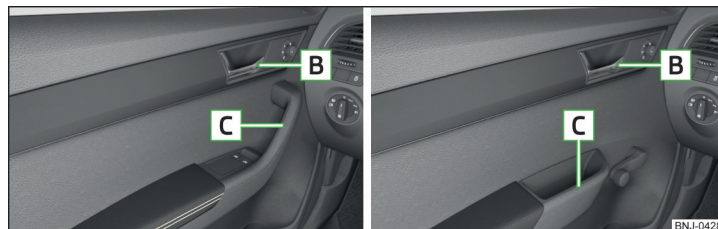

Fig. 48 Door opening lever - Variant 1 / Variant 2
- To **open from the inside** pull the door opening lever » Fig. 48 and push the door away from you.